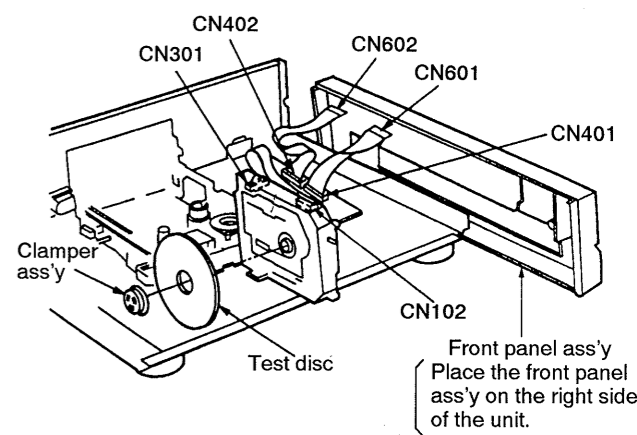

Fig. 5
1. Connect the FPC boards as shown in Fig. 5.